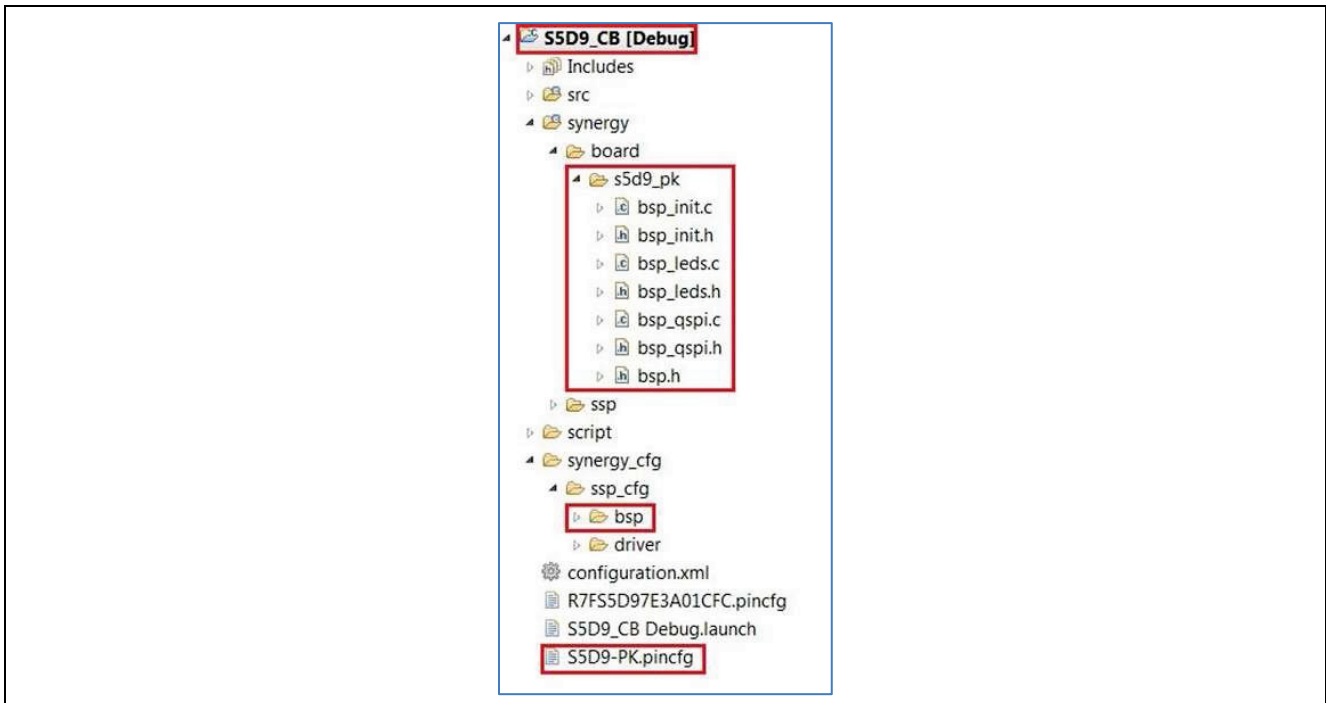

Figure 8. Generated Board Files as Templates for Creating Custom Board Files
6. Click **Finish**. The default BSP files for S5D9-PK are generated automatically. In e² studio, the project explorer shows all the files generated as shown in Figure 8.